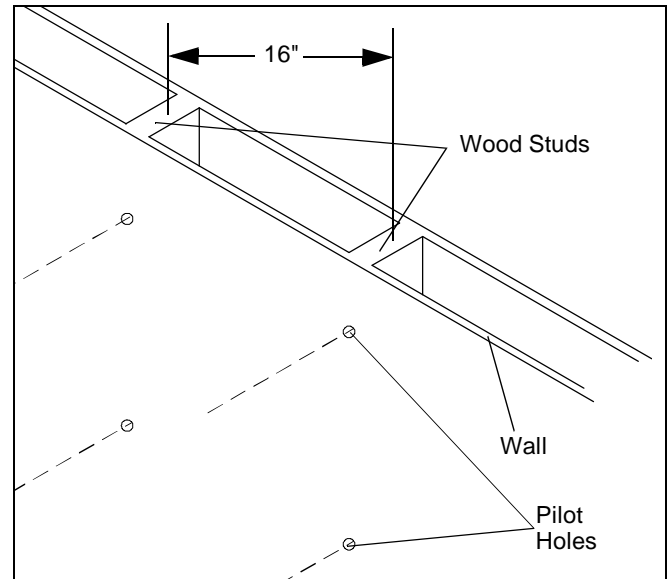

Figure 1
7. Drill two pilot holes using a 7/32" drill bit where the mounting holes were marked for anchoring the top bracket. See Figure 1.
8. Install two 5/16" x 2-1/2" lag bolts (50) and two 0.135" thick washers (60), through PNR Top Bracket and into upper pilot holes.